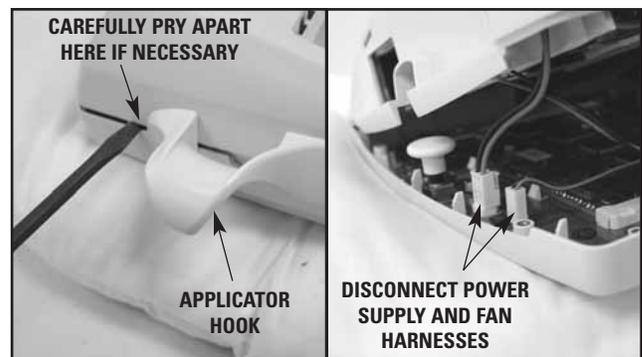

FIGURE 6.4
8. Carefully separate the upper and lower housings of the system. It may be necessary to pry the housings apart at the Applicator Hook. See Figure 6.4.
9. Disconnect the Power Supply and Fan Harnesses from the Control PCB of the system. See Figure 6.4.